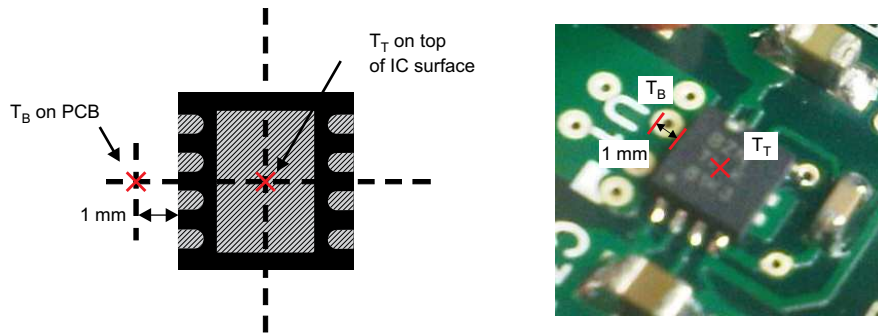

Figure 46. Measuring Points for T_T and T_B
- T_B is the PCB temperature measured 1-mm away from the IC package *on the PCB surface* as shown in Figure 46